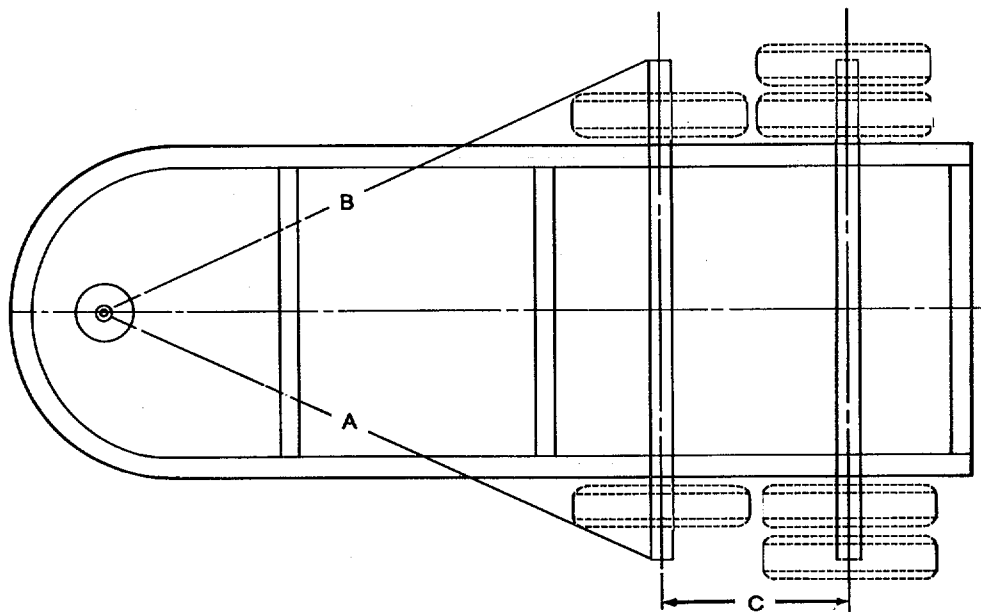

Figure 5-2. Axle Alinement.
- (3) Lift axle assembly into place and support.
- (4) Attach axle assembly to semitrailer with spring hanger (10), U-bolts (11), and nuts (9). Torque nuts to 300 lb.-ft. (407 N•m).
- (5) Install the torque radius rods to axle assembly and frame hanger (see paragraph 4-30).
- (6) Attach the brake chambers (see paragraph 4-23).
- (7) Install the brake assembly (see paragraph 4-22).
- (8) Install hub and wheel bearings (see paragraph 4-25).
- (9) Install the wheels (see paragraph 4-26).
- (10) Check axle alinement.
- c. Axle Alinement (see Appendix F; Figure 33 and Figure 5-2).
- (1) Load the semitrailer to its rated capacity.
- (2) Locate the kingpin centerline.
- (3) Roll the semitrailer back and forth over a level floor to permit connecting linkage to position itself.
- (4) Jack up the semitrailer.
- (5) Remove the ladder assembly.
- (6) Remove the landing gear (see paragraph 4-28).
- (7) Remove outer wheels (see paragraph 4-26).
- (8) Ensure that the semitrailer is level.
- (9) Measure the distances A and B from kingpin to the forward axle. These distances must be within 1/16 in. (1.6 mm) of each other (see Figure 5-2).
- (10) Measure the distances C and D between front and rear tandem axle.